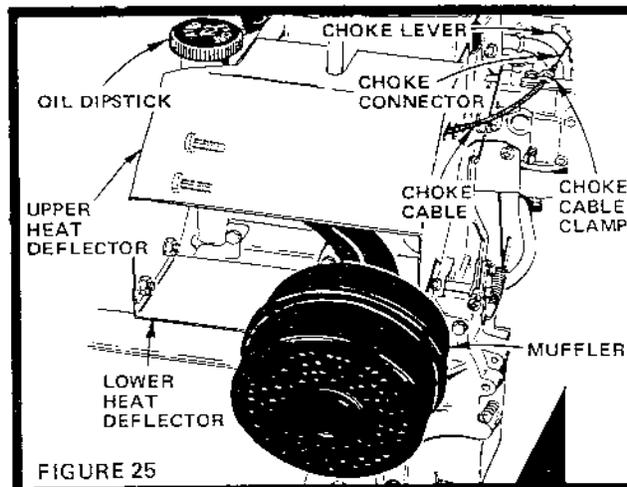

FIGURE 25
- Loosen Choke Cable Clamp and disconnect Choke Connector (Fig. 25).
- Remove four Bolts to remove Lower Heat Deflector (Fig. 25).
- Remove two front Screws and rear Bolt to remove Upper Heat Deflector (Fig. 25).
- Reassemble Upper Heat Deflector with Choke Cable, tighten fasteners and Lower Heat Deflector and tighten Bolts (Fig. 25).
- Reconnect Choke Connector in middle hole of Choke Lever and slip Choke Cable under Clamp (Fig. 25).
- With Choke fully depressed, push Cable through Clamp as far as it will go towards Choke Connector and tighten Clamp (Fig. 25).